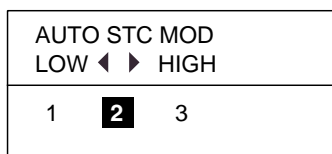

Figure 1-8 Dialog box for automatic adjustment of STC
1. Press the [STC] key once or twice to show the dialog box shown in Figure 1-8.